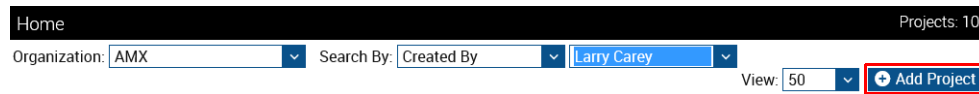

FIG. 22 Home Page - Add Project button
2. In the RPM Home Page, click **Add Project** to access the *Project Details* page (see FIG. 22 on page 19).
1. To start a new RPM project, click **Add Project** in the upper-right corner of the Home page (FIG. 22):